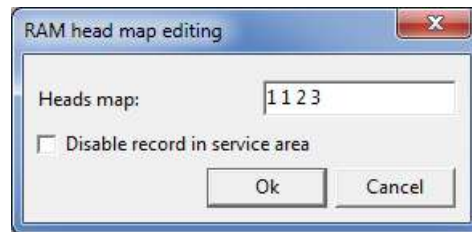

Fig.8.9.
- ◆ As soon as you find out, which system heads are malfunctioning, you can correct the heads map as necessary. For example, if the zero head is malfunctioning, you can start the drive with the map shown in the Fig. 8.9.